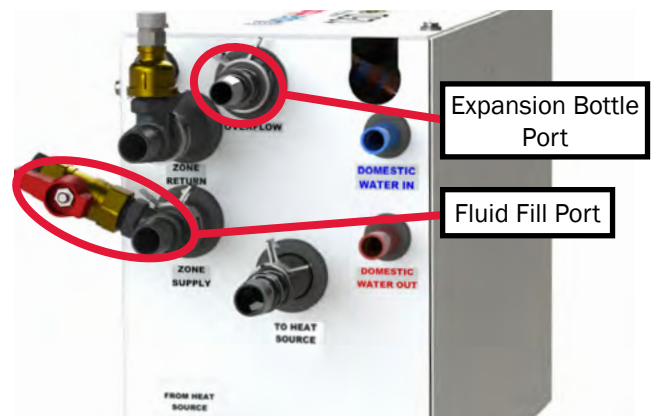

Figure 87
4. Locate the fluid fill port (shown in Figure 87).